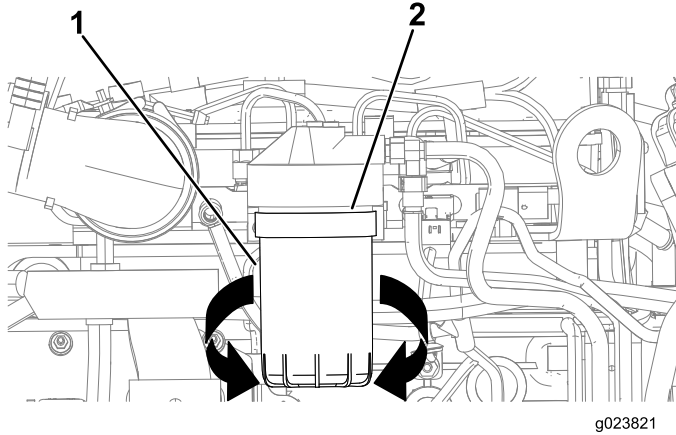

Figure 129
3. Align a drain pan or several rags under the secondary fuel filter and the fuel-filter adapter (Figure 129).
4. Rotate the fuel filter counterclockwise and remove the fuel filter (Figure 129).
7. Align the fuel filter to the fuel-filter adapter, and rotate it clockwise until the seal of the fuel filter contacts the fuel-filter adapter (Figure 129).
8. Hand tighten the fuel filter and additional 1/2 turn (Figure 129).